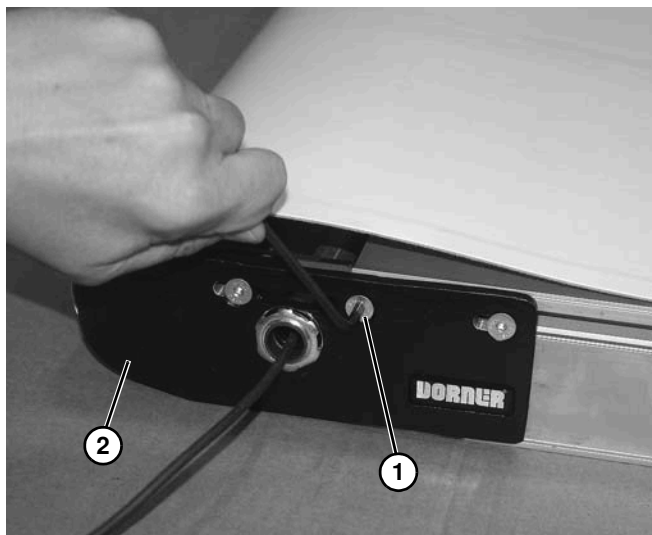

Figure 97
2. Remove screw (Figure 97, item 1) from idrive head plate (Figure 97, item 2) on each side of conveyor.